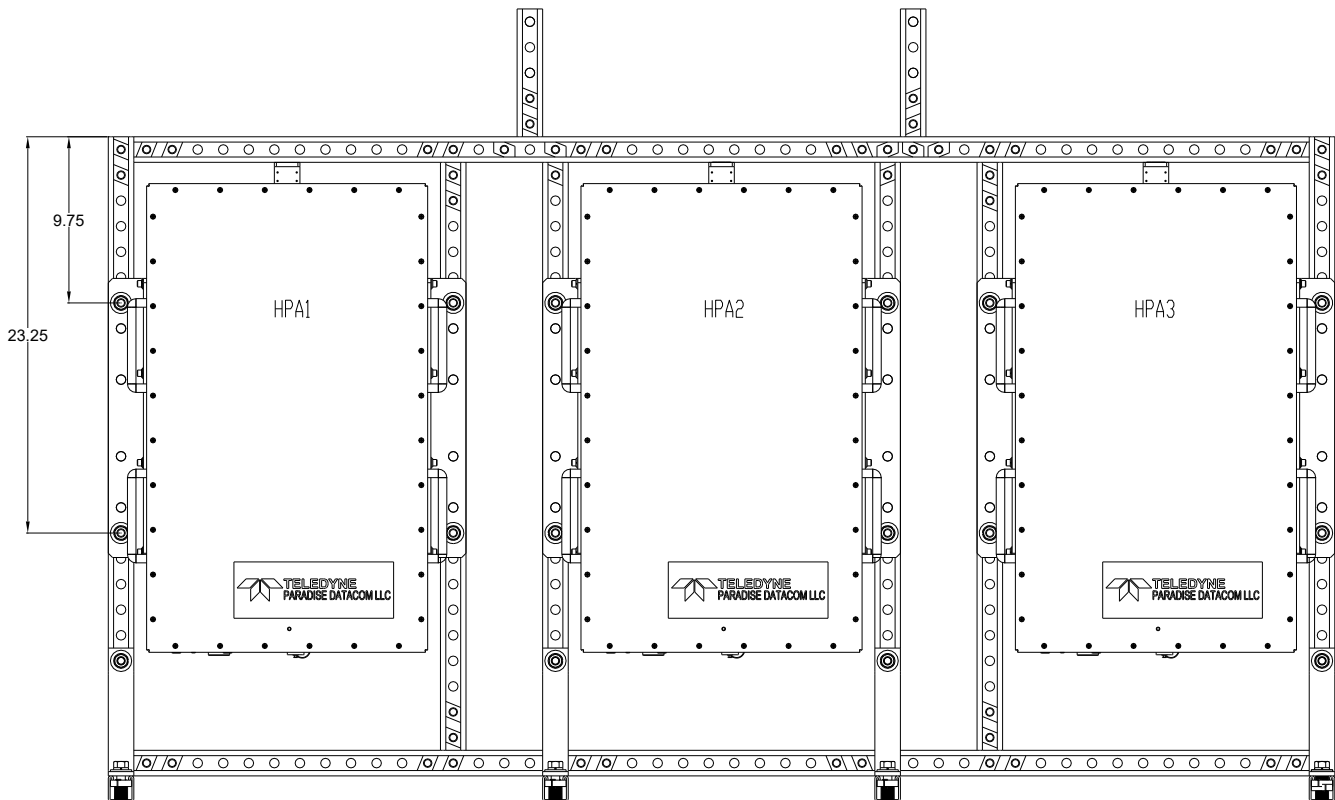

Figure 4-4: Install Amplifiers
The HPAs will be mounted to the open channel side of the uni-strut frame. Mounting hardware is provided with the amplifiers. See **Figure 4-4**.
1. Insert a 1/2-13x2.75 hex bolt with 1/2" flat washer through the flat side of the uni-strut frame at the positions shown in **Figure 4-4** and through the mounting bracket of the HPAs.